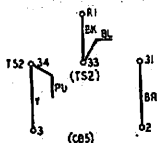

**Fig. 3—Wiring of 14A Reperforator—Units having Serial Numbers between 7314 and 7620 inclusive. (Wiring of earlier sets.)**
1.01 This section is reissued to include Figs. 3, 4 and 5.
Figs. 3 and 5 are based on ES-625806, Issue 1.
**\*Fig. 4—Internal Wiring Variation—Polar operation of line relay, 14A Reperforator Unit (units having Serial Nos. other than shown in Fig. 3).**